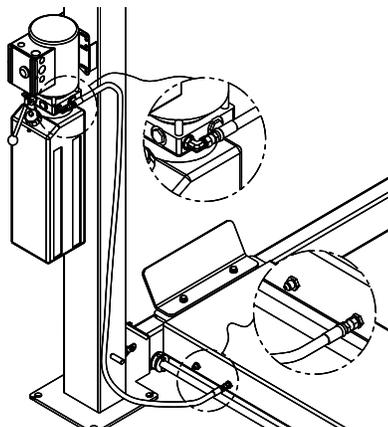

Fig 18 – Supply Line, Side
- 35) For installs with the power unit on the side of the column route the supply line to the bulkhead shown in Fig 18.